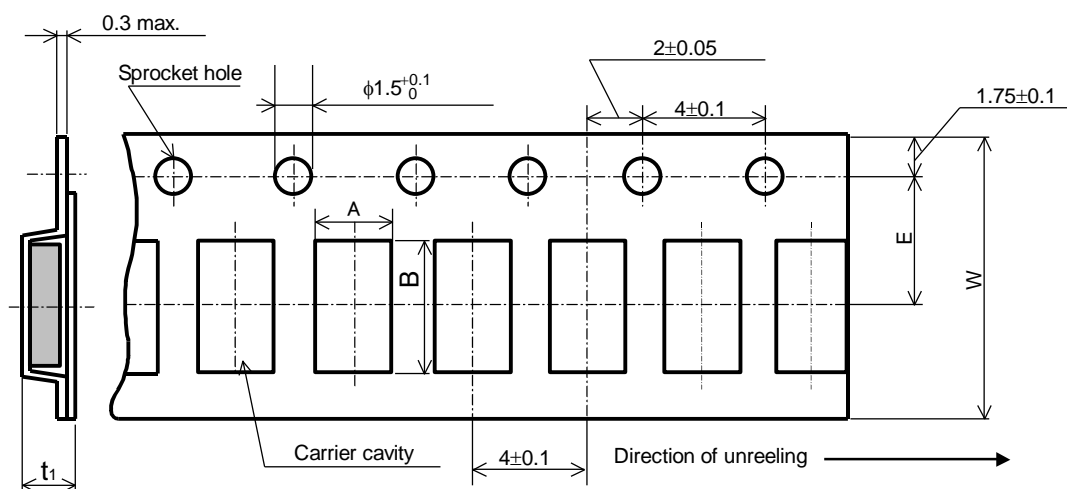

Figure-5
8.2.3 Embossed tapping dimensions shall be in accordance with Figure-5 and Table-7.